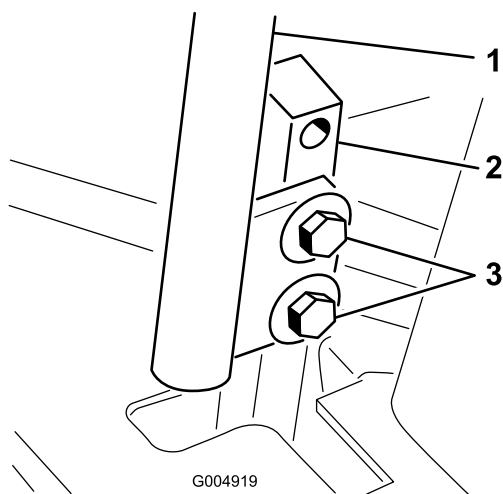

Figure 87
3. Loosen the bolts securing the control levers (Figure 87)